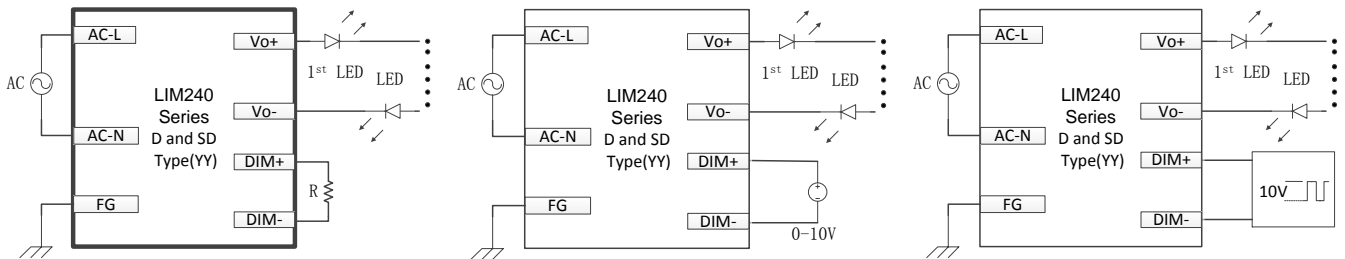

Fig.15 Resistor Dimming Application Fig. 16 0-10V Dimming Application Fig. 17 10V PWM Dimming Application
1. Reference resistance Value for output current adjustment (Typ.) see Fig. 15 ,18